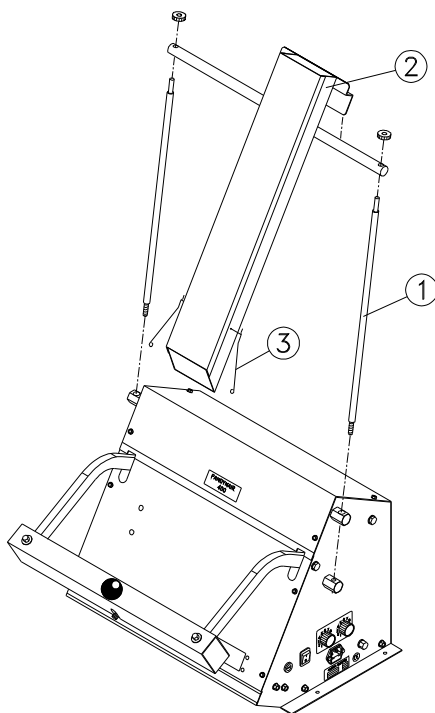

Fig. 6
In case of using the stand (1) and the filling chute (2) (accessory) , these should be mounted on the sealer (see fig. 6). Put the correct size of tube film over the filling chute. Mount the two springs (3) on both sides of the chute. They will keep the tubular film stretched to get a good seal. There are several sizes of chutes and film available.